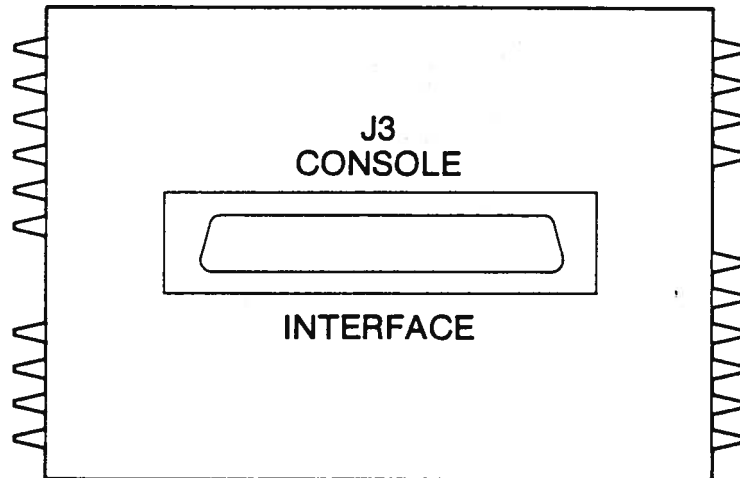

Figure 2.14 Sensor Control Unit - Front Panel / Console Interface Connector
2.2 Sensor Control Unit (SCU) Description (Figures 2.14 & 2.15)
2.2.6 CONSOLE INTERFACE CONNECTOR (See Figure 2.14)